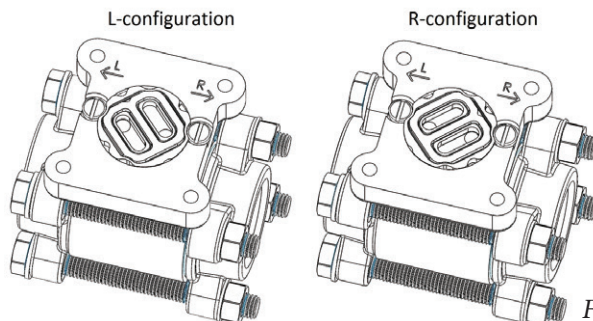

Figure 6
At the time of ordering, you must specify in which direction the Flow Monitor shall be mounted i.e. from which side is the flow entering the Pipe Section. (Please refer to fig. 6 below for alternatives.) If, for some reason, the Flow Monitor is ordered with the wrong flow direction, it is possible to change this in the field.
To change the direction, loosen the four (4) hexagon screw, which hold the diaphragm housing to the Pipe Section. Remove the diaphragm housing and you will see the flow direction selector (it might have attached itself to the bottom side of the diaphragm housing). Replace the flow direction selector in the configuration for your system (see fig. 6).